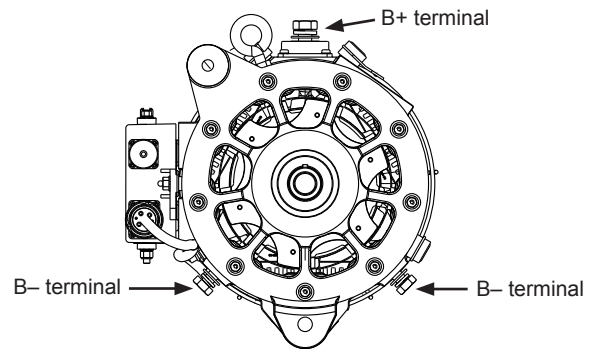
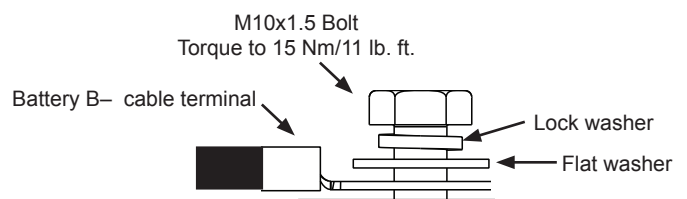

Figure 1: C812 Alternator B+/B- Terminal Connections
Figure 4: B- Terminal Hardware Stacking Order
6. Connect vehicle B- cable to one of two B- terminals on alternator. See Figure 1. 22Install hardware in stacking order shown in Figure 4 and torque to 15 Nm/11 lb. ft.